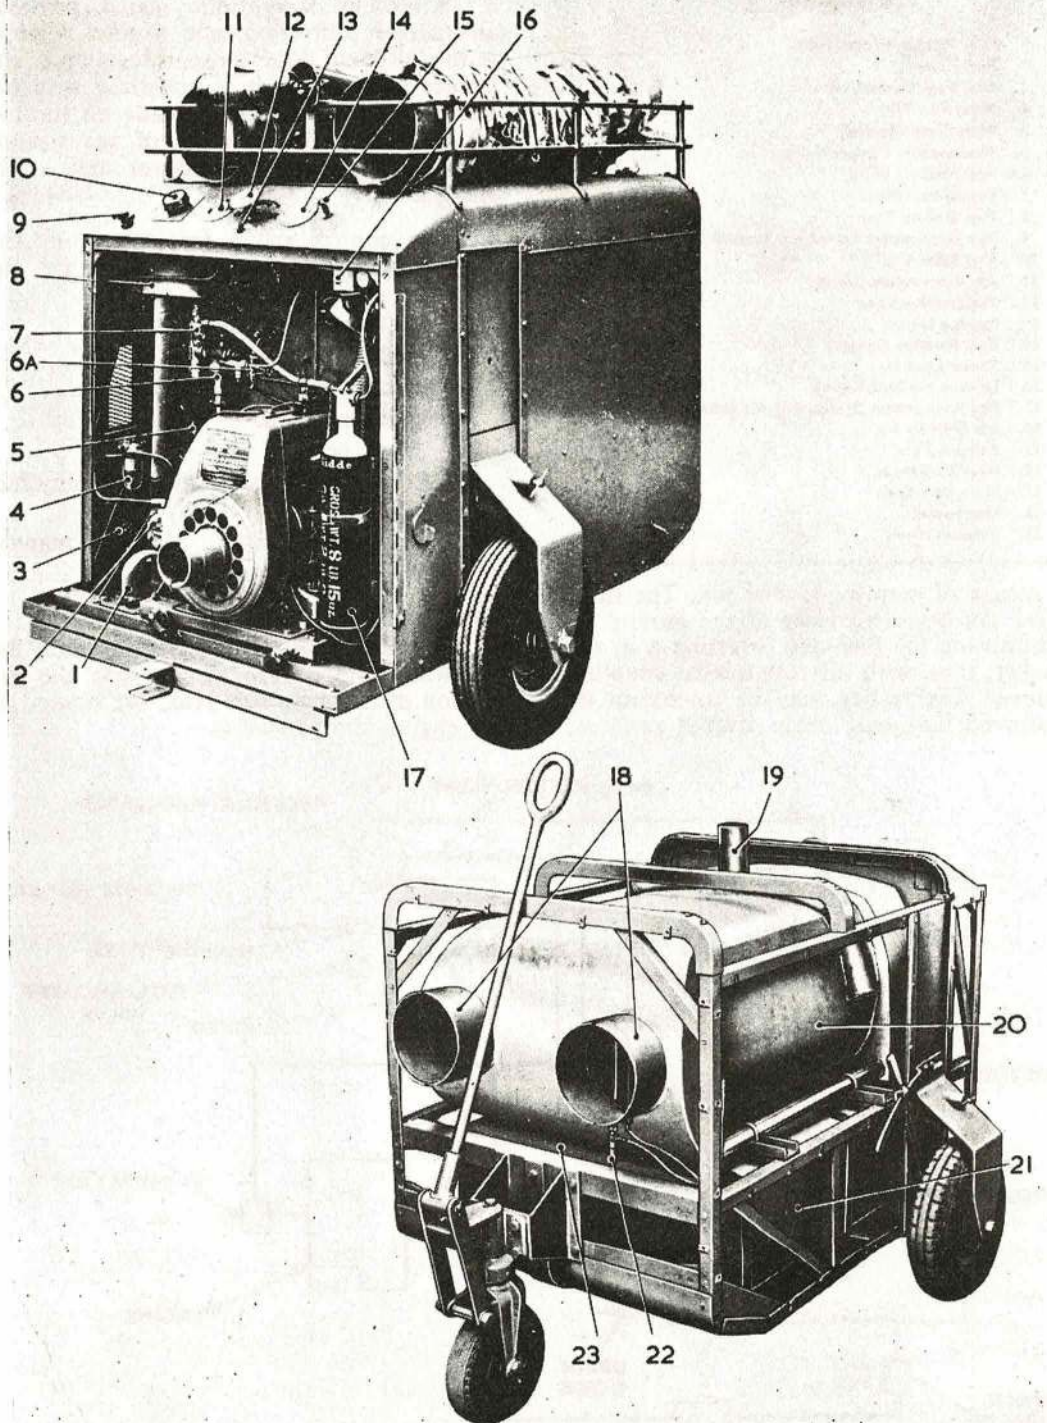

Fig. 2. TROLLEY WITH COWLING PARTIALLY REMOVED
2. The chassis (Fig. 2) comprises a light-alloy framework. The two side wheels, one of which incorporates a parking brake, can be locked in either the "up" or "down" position
(Key to Fig. 2 overleaf)
Key to Fig. 2